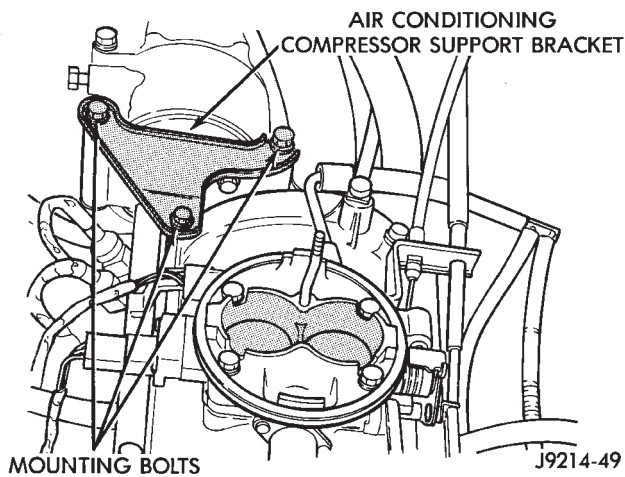

Fig. 31 A/C Compressor Support Bracket—Typical
- (1) Remove negative battery cable at battery.
- (2) Remove air duct at throttle body.
- (3) Perform the fuel pressure release procedure.
- (4) Remove throttle body from intake manifold. Refer to Throttle Body removal in this group.
- (5) If equipped with air conditioning, remove the A-shaped A/C compressor-to-intake manifold support bracket (three bolts) (Fig. 31).